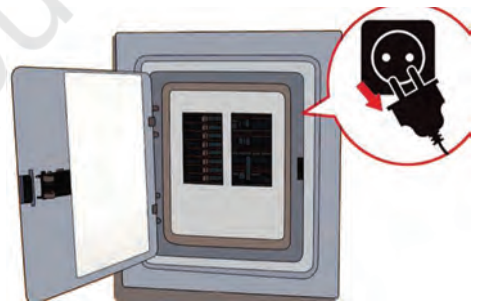

Fig. 6.3: Unplug electrical equipment
- An extension or power cord probably powers portable electrical equipment. Unplug portable electrical equipment to remove power as shown in Fig. 6.3.